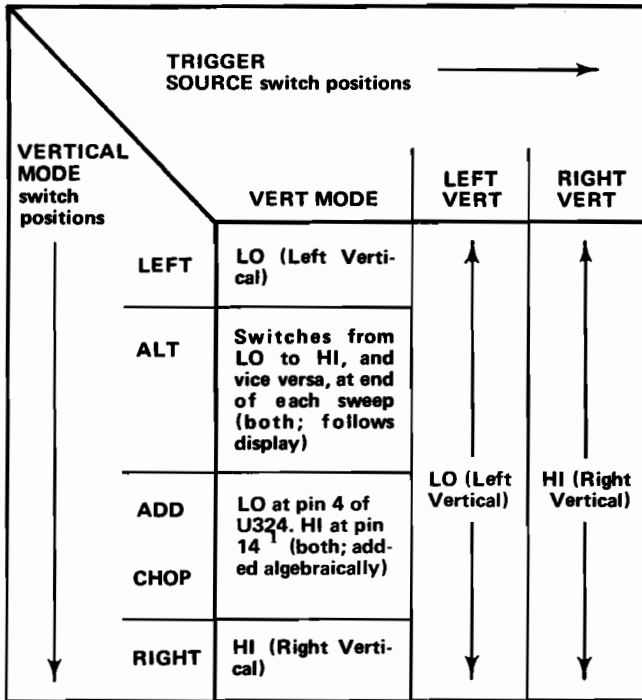

Fig. 3-17. Input levels at pin 4 of U324 (source of triggering signal is shown in parenthesis).
**VERT MODE.** In the VERT MODE position of the TRIGGER SOURCE switch, the setting of the VERTICAL MODE switch determines the operation of the Trigger Channel Switch stage. In the LEFT position of the VERTICAL MODE switch, the base of Q314 is connected to ground through the ALT and RIGHT sections of S1021, CR1021 and CR1026 and S1011. This holds Q314 reverse biased to provide a LO level to pin 4 of U324 (see Fig. 3-17).